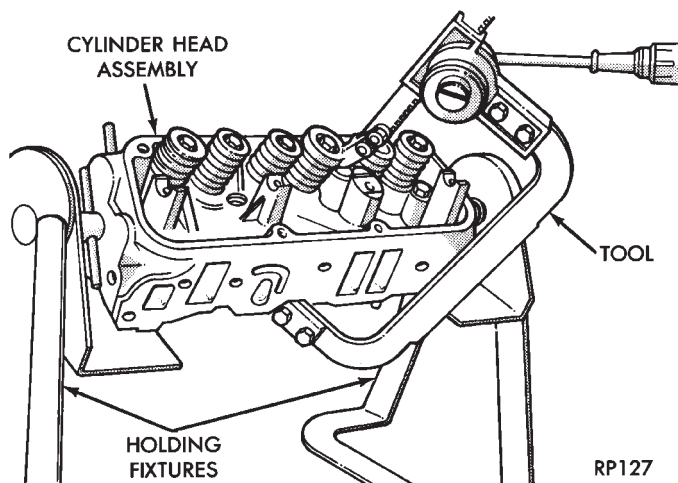

Fig. 15 Compress Valve Springs with Special Tool C-3422B with adapter 6412
(1) With cylinder head removed, compress valve springs using Valve Spring Compressor Tool C-3422-B with adapter 6412 as shown in (Fig. 15).
(2) Remove valve retaining locks, valve spring retainers, valve stem seals and valve springs.
(3) Before removing valves, **remove any burrs from valve stem lock grooves to prevent damage to the valve guides.** Identify valves to insure installation in original location.